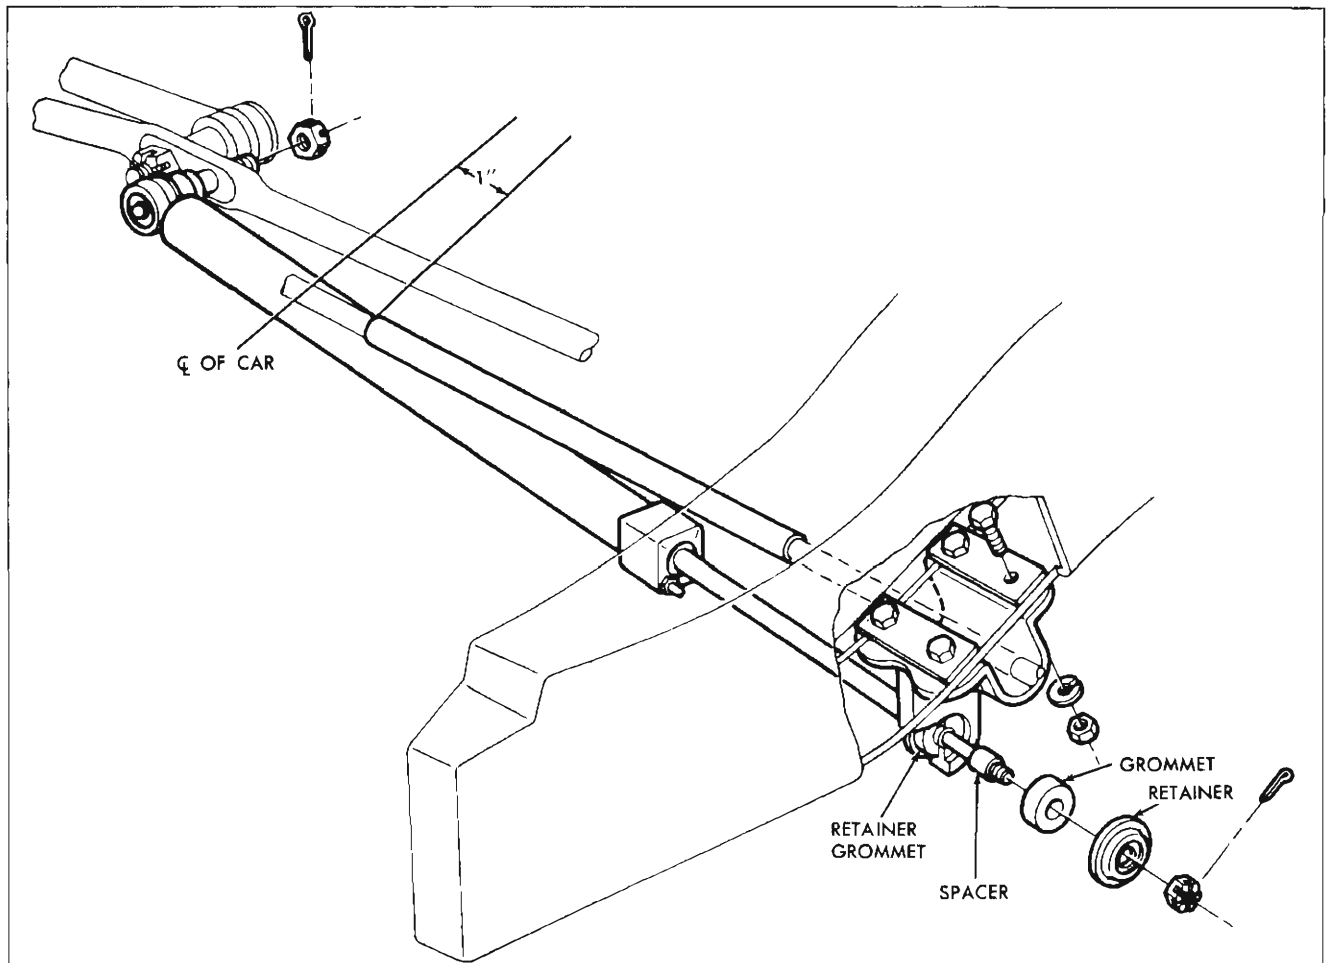

Fig. 53—Power Steering Cylinder Attachment
2. Remove cotter pin, nut, retainer and grommet from power cylinder rod attached to the frame bracket (fig. 53).